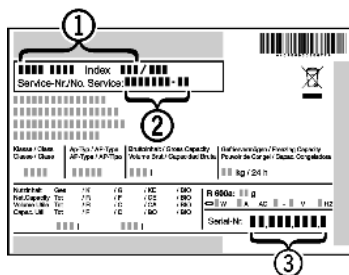

Fig. 9
- ▶ Read the appliance designation *Fig. 9 (1)*, service No. *Fig. 9 (2)* and serial No. *Fig. 9 (3)* off the type plate located inside the appliance on the left-hand side.
- ▶ Notify the customer service, specifying the fault, appliance designation *Fig. 9 (1)*, service No. *Fig. 9 (2)* and serial No. *Fig. 9 (3)*.